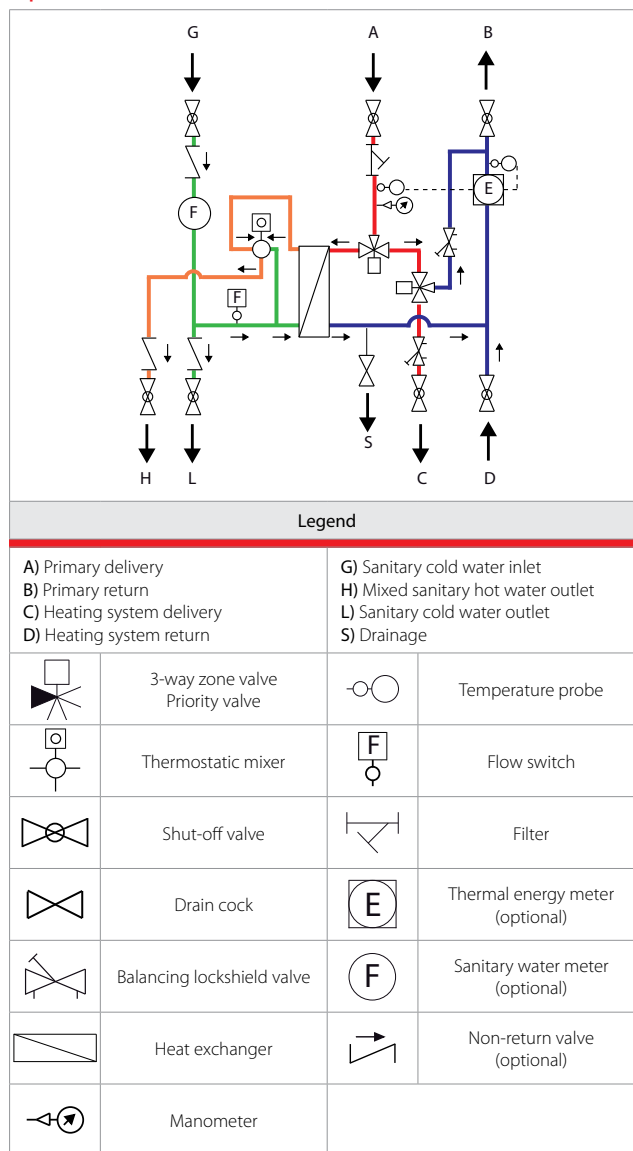

Figure 3 – Operation diagram
- If there is no sanitary water meter, the cold sanitary water inlet in the satellite can be set from below (inlet L in figure 3, with the connection G closed and no check valve).